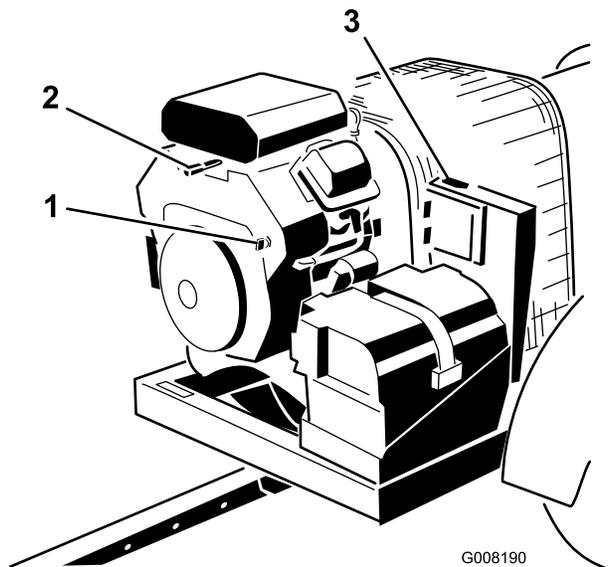

Figure 13
3. Rotate the engine ignition key to the “START” position and quickly release it to the “ON” position (Figure 13). This wakes up the receiver .
4. If leaving the machine, rotate the key to the OFF position and remove it from the engine (Figure 13).